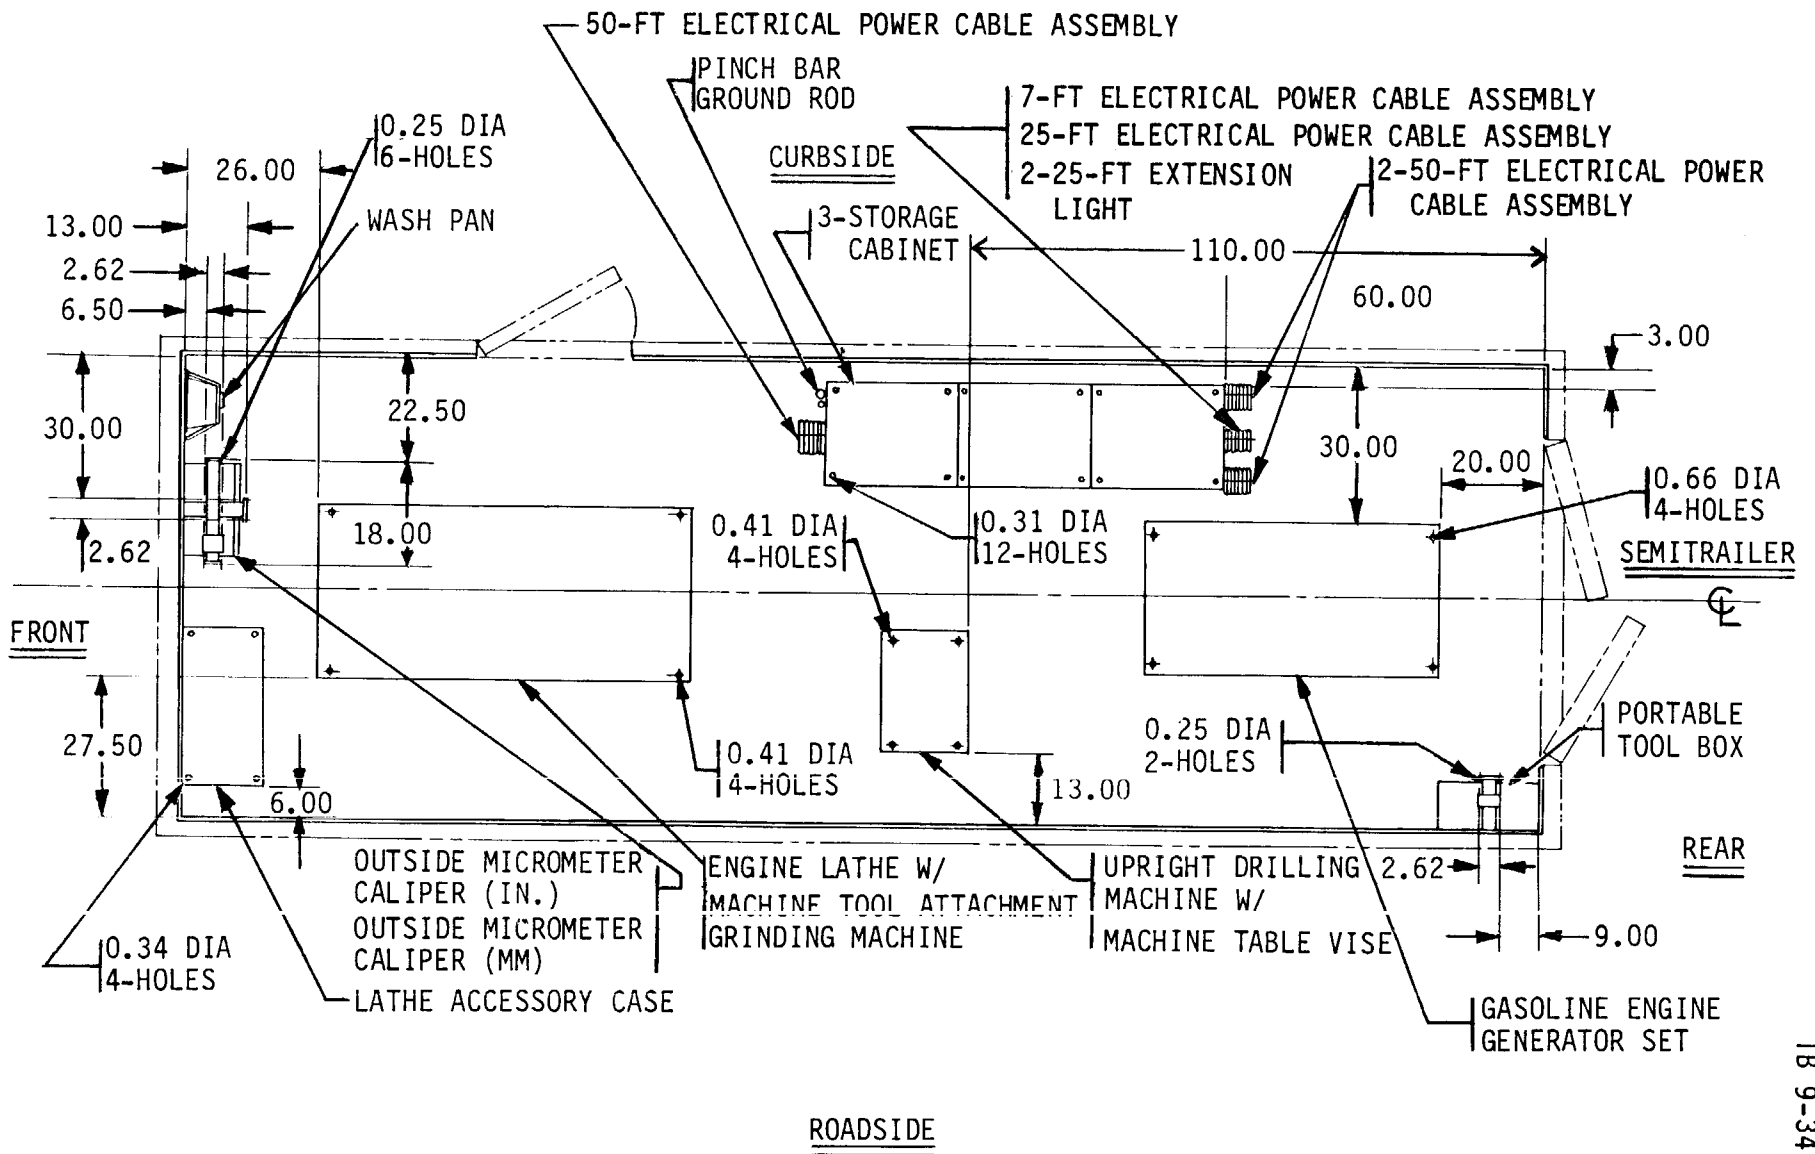

Figure 1. Components to be mounted.
b. Mark and drill thirty-six 0.25-in. diameter holes in semitrailer floor, storage cabinet walls, and storage cabinet tops in accordance with figures 1, 3, and 4. Install strap loops as follows:
(1) Install four straps loops (MS51939-3) in semitrailer floor using eight #10 x 1-3/4-in. countersunk head machine screws (MS35190-278), eight 5/32-in. flat washers (MS27183-6), eight #10 lockwashers (MS35338-43), and eight #10 hex nuts (MS35650-302).
(2) Install eight strap loops (MS51939-3) on storage cabinet tops using sixteen #10 x 2-1/4-in. countersunk head machine screws (MS35190-280), sixteen 5/32-in. flat washers (MS27183-6), sixteen #10 lockwashers (MS35338-43), and sixteen #10 hex nuts (MS35650-302).
**c. Follow steps (1) thru (24) below for equipment installation.**
(1) Position engine lathe (3416-00-725-3508) on semitrailer floor in accordance with figure 1. Using the base of the engine lathe as a template, mark and drill four 0.41-in. diameter holes through the floor. Secure engine lathe to floor using four 3/8- x 2-1/2-in. hex head capscrews (MS901725-68), eight 13/32-in. flat washers (MS2718-14), four 3/8-in. lockwashers (MS35338-46), and four 3/8-in. hex nuts (MS51967-8).
(2) Machine tool attachment grinding machine (3460-00-243-9607) is to be secured to the engine lathe's cross slide with T-bolts provided.
(3) Position lathe accessory case on semitrailer floor in accordance with figure 1. Using the lathe accessory case as a template, mark and drill four 0.34-in. diameter holes through the floor. Secure lathe accessory case to the floor using four 5/16- x 3-in. machine bolts (MS90725-44), four 11/32-in. flat washers (MS27183-12), four 5/16-in. lockwashers (MS35338-45), and four 5/16-in. hex nuts (MS51967-5).
(4) Secure wash pan (4940-00-795-3595) to the semitrailer front wall using one 48-in. retaining strap (7550588-3) in accordance with figure 1.
(5) Position two outside micrometer calipers (5210-00-555-8673 and 5210-00-555-8672) on semitrailer floor and secure with one 48-in. retaining strap (7550588-3) secured to the wall and floor, and one 66-in. retaining strap (7550588-9) parallel to the wall in accordance with figure 1.
(6) Position three storage cabinets (7125-00-357-5337) in the semi-trailer in accordance with figure 1. Using the bases of the storage cabinets as templates, mark and drill twelve 0.31-in. diameter holes through the floor. Secure storage cabinets to floor using twelve 5/16- x 2-in machine bolts (MS90725-40) and twelve 11/32-in. flat washers (MS27183-12); under the floor use twelve 5/16-in. flat washers (AN970-5), twelve 5/16-in. lockwashers (MS35338-45), and twelve 5/16-in. hex nuts (MS51967-5).
(12) Secure the pinch bar (5120-00-224-1384) and ground rod (5975-00-777-6781) to storage cabinet wall using two 12-in. retaining straps (7550588-6) in accordance with figure 1.
(16) Wrap one 50-ft electrical power cable assembly (6150-00-682-3460) around two squareneck bolts on the storage cabinet wall in accordance with figure 1. Secure 50-ft electrical power cable assembly with one 24-in. retaining strap (7550588-5).
(17) Install one 25-ft electrical power cable assembly (4910-00-725-9558), one 7-ft electrical power cable assembly (4910-00-800-1405), and two
25-ft extension lights (6230-00-729-9259) on the middle set of squareneck bolts located on the opposite side of storage cabinet group in accordance with figure 1.
(18) Install two 50-ft electrical power cable assemblies (6150-00-682-3460) on the remaining two pairs of squareneck bolts, one 50-ft electrical power cable assembly for each pair of squareneck bolts. Secure the cable assemblies and extension lights installed in steps 16 and 17 with one 48-in. retaining strap (7550588-3).
(19) Position upright drilling machine (3413-00-964-9379) on semitrailer floor in accordance with figure 1. Using the base of the upright drilling machine as a template, mark and drill four 0.41-in. diameter holes through the floor. Secure upright drilling machine to floor using four 3/8- x 2-1/4-in. hex head capscrews (MS90725-67) and four 13/32-in. flat washers (MS27183-14); under the floor use four 3/8-in. flat washers (AN970-6), four 3/8-in. lockwashers (MS35338-46), and four 3/8-in. hex nuts (MS51967-8).
(20) Machine table vise (3460-00-277-3504) is to be attached to the upright drilling machine table with the T-bolts provided with the machine table vise.
**(21) Position gasoline engine generator set (6115-00-889-1447) on semitrailer floor in accordance with figure 1. Using the base of the gasoline engine generator set as a template, mark and drill four 0.66-in. diameter holes through the floor. Secure gasoline engine generator set using four 5/8- x 2-1/2-in. hex head capscrews (MS90725-166) and four 21/32-in. flat washers (MS27183-21); under the floor use four 5/8-in. flat washers (AN970-10), four 5/8-in. lockwashers (MS35338-50), and four 5/8-in. hex nuts (MS51967-20).**
(22) Position portable tool box (5140-00-319-5079) on semitrailer floor in accordance with figure 1. Secure portable tool box using one 48-in. retaining strap (7550588-3).